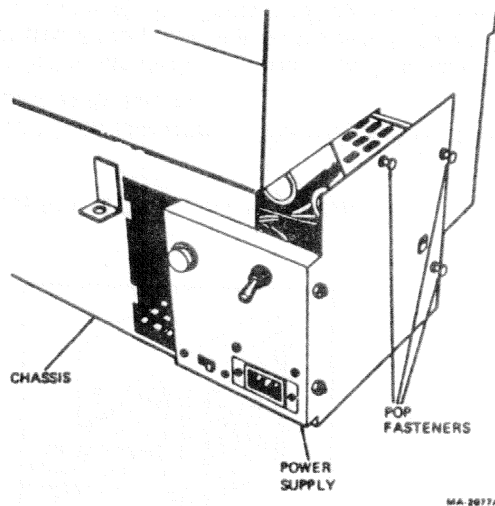

Figure 5-15 Power Supply Removal
- Locate the three pop fasteners on the side of the chassis. Release the pop fasteners by pulling the plungers out (Figure 5-15).